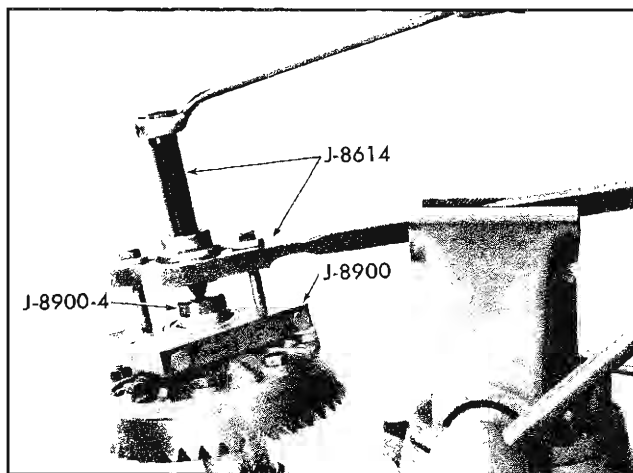

Fig. 4-30 Removing Side Bearing
1. If side bearing or case is to be replaced, remove bearings using J-8900 and J-8614 (Fig. 4-30).